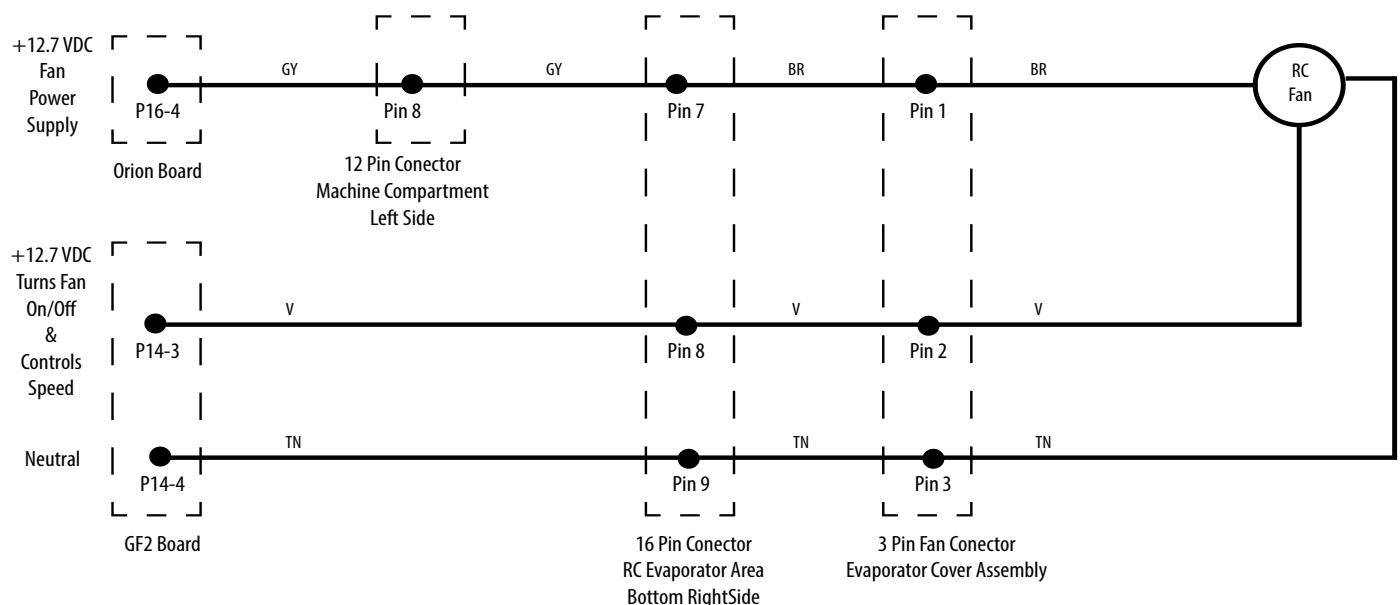

FIGURE 14: RC Fan Electrical Diagram
- Check all wiring connectors tight (FIGURE 14).